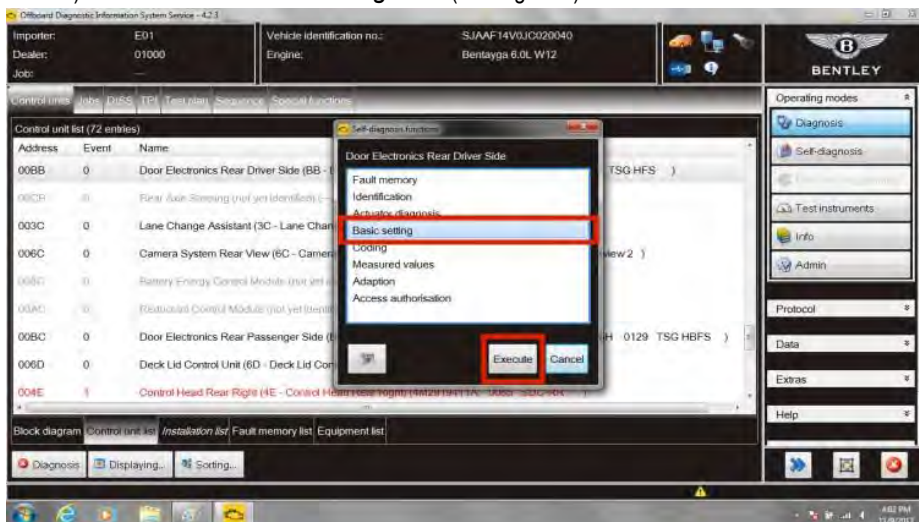

Figure 8
18. Within *Control units*, Door Electronics Rear Driver Side, Select *Basic settings* and then *Execute* (see Figure 8)